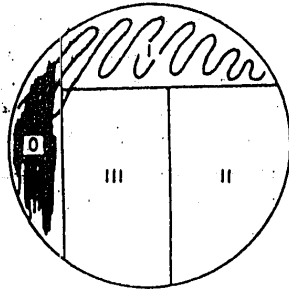

Figure 8-4
- 4- Study step 2 (Figure 8-4), and then draw lines from Sector 0 into sector I as shown.